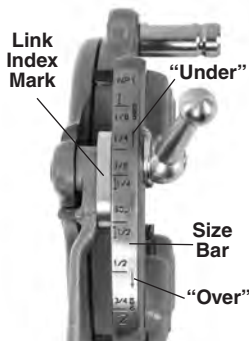

Figure 7 – Adjusting Thread Size
3. Start with link index mark aligned with desired size mark on size bar. On Bolt die heads, set link mark at line in size bar. For bolt threads with Universal die head, set all bolt dies at BOLT line on size bar (Figure 7).